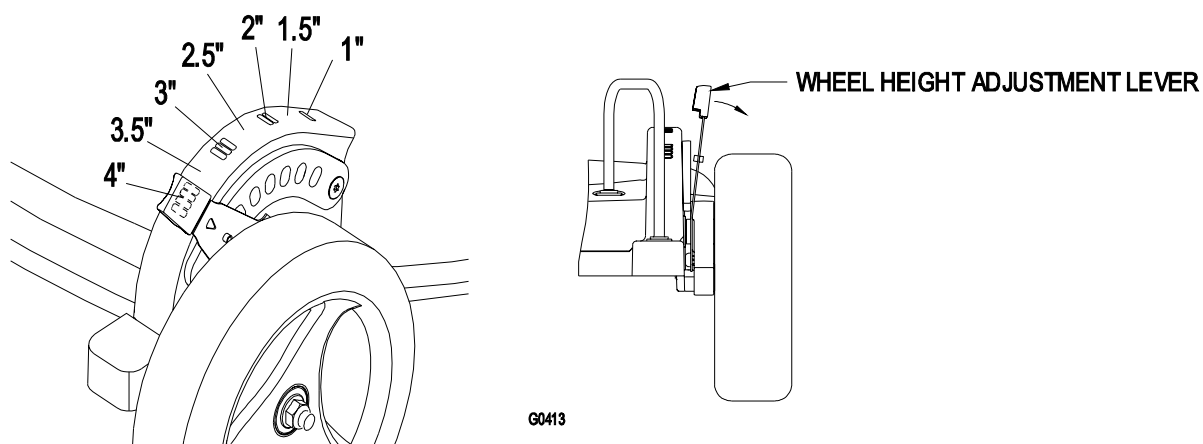

FIGURE 11
3. Set all four wheels in to the 2-1/2 in. (64 mm) cutting height (Fig. 11).
1. Pull the wheel height adjustment lever toward the wheel (Fig. 11) and move it to the desired setting.